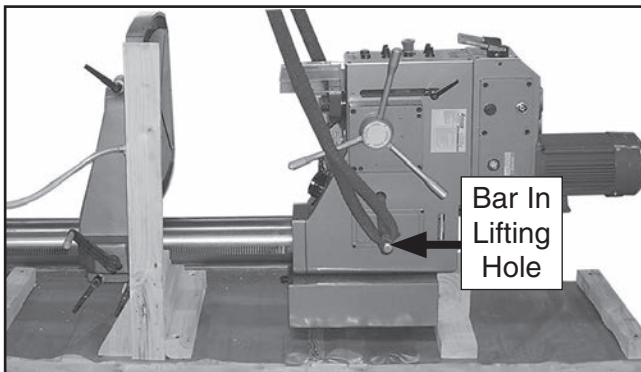

Figure 6. Strap around bar in lifting hole.
2. Remove top portion of crate from the shipping pallet, secure the ends of a properly rated lifting strap around each side of the bar placed through the lifting holes, and attach it securely to your power lifting equipment (see **Figure 6**).